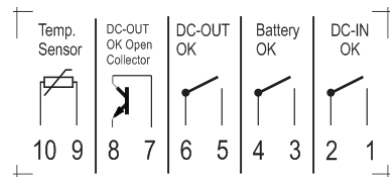

Fig. 2.
- ❖ All signalling voltages wired to connector as per Fig.2 must be SELV rated.